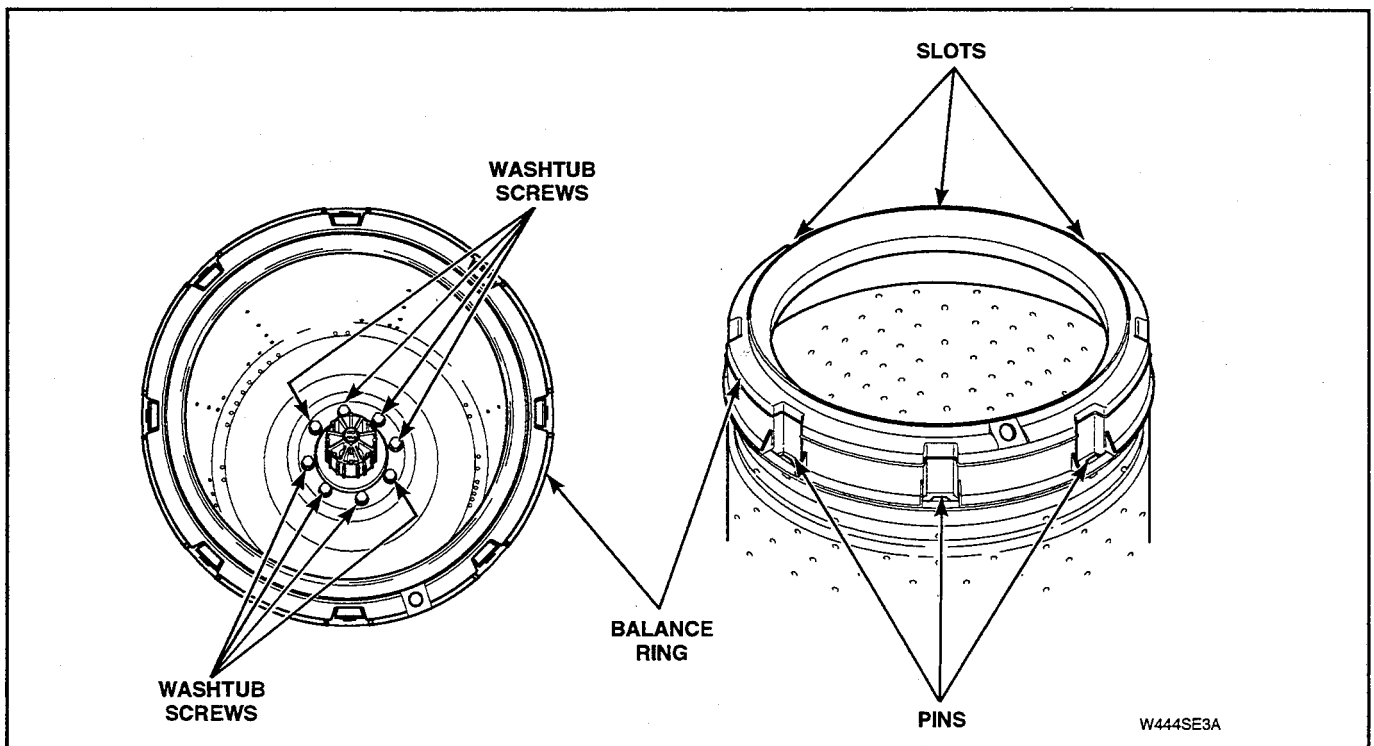

Figure 5-28
m. Remove screws and washers holding washtub to hub. See Figure 5-28.
- Place blade of a small screwdriver into slots between balance ring and washtub. See Figure 5-28.
- Carefully pry pins of balance ring out of holes in washtub. See Figure 5-28.
- i. Remove screws holding washtub to hub. See Figure 5-28. Then lift washtub out of outer tub.